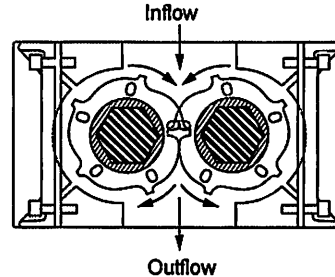
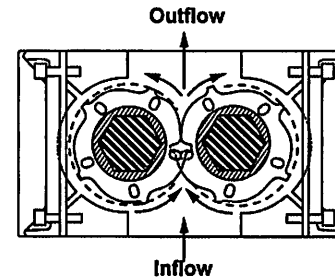

Fig. 3 Inflow and outflow viewed from bottom of machine
Fig. 4 Inflow and outflow viewed from top of machine
2. Lift the machine and set it over the frame. Lower into place. Make sure to set the unit according to the direction of the cutters. The unit has a flow direction arrow, use that or confirm with fig. 3 and fig. 4: